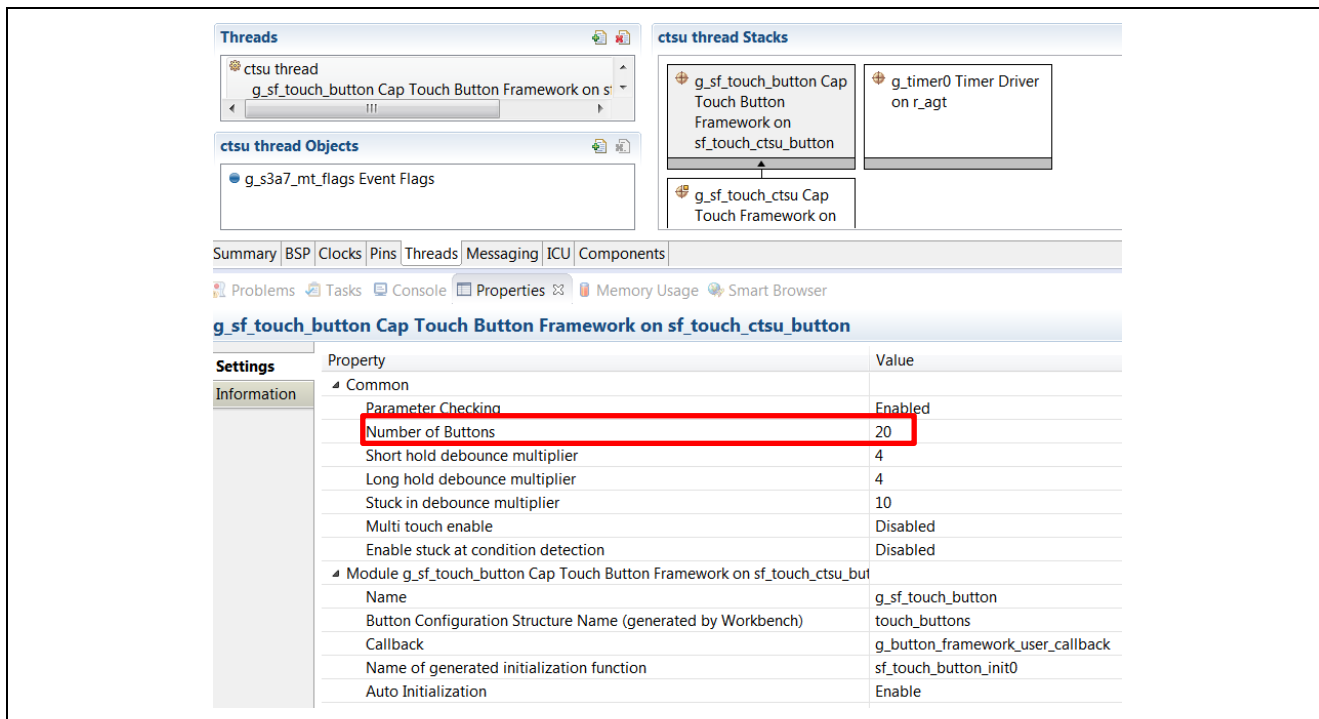
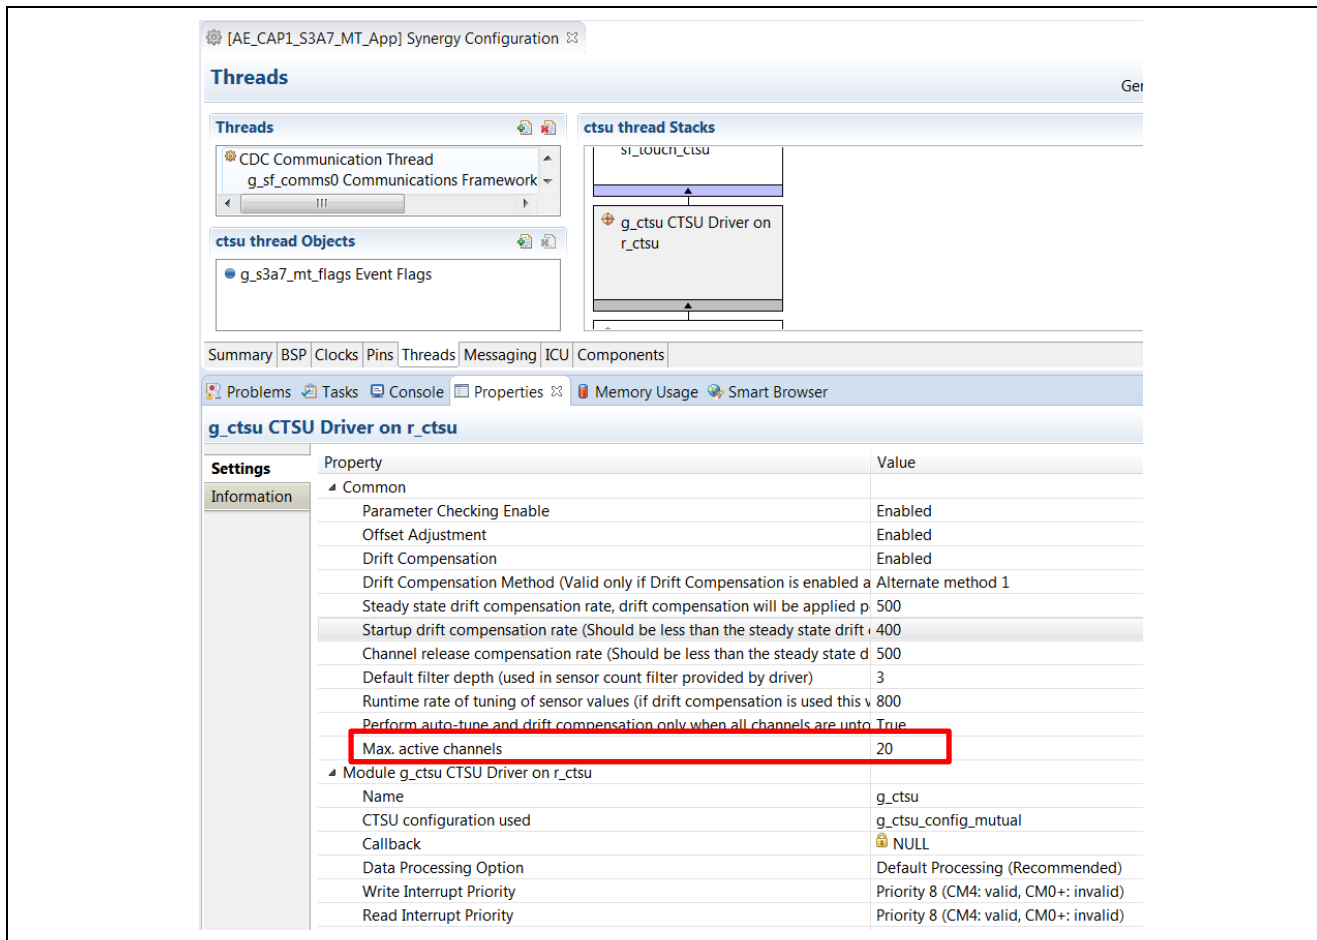

Figure 10. Capacitive Touch Button Framework for S3A7 in Mutual-capacitive Touch Application
Figure 11. CTSU HAL Driver Settings for S3A7 in Mutual-Capacitive Touch Application
Figure 10 includes some of the common parameter settings for the Capacitive Touch Button framework in the S3A7 software projects.
Figure 11 shows some of the common parameter settings for the CTSU HAL driver in the S3A7 mutual-capacitive touch software projects.
- Figure 11 shows that the property **Max. active channels** setting matches the **Number of Buttons** setting in Figure 10. See the *SSP User's Manual* to understand these property settings.